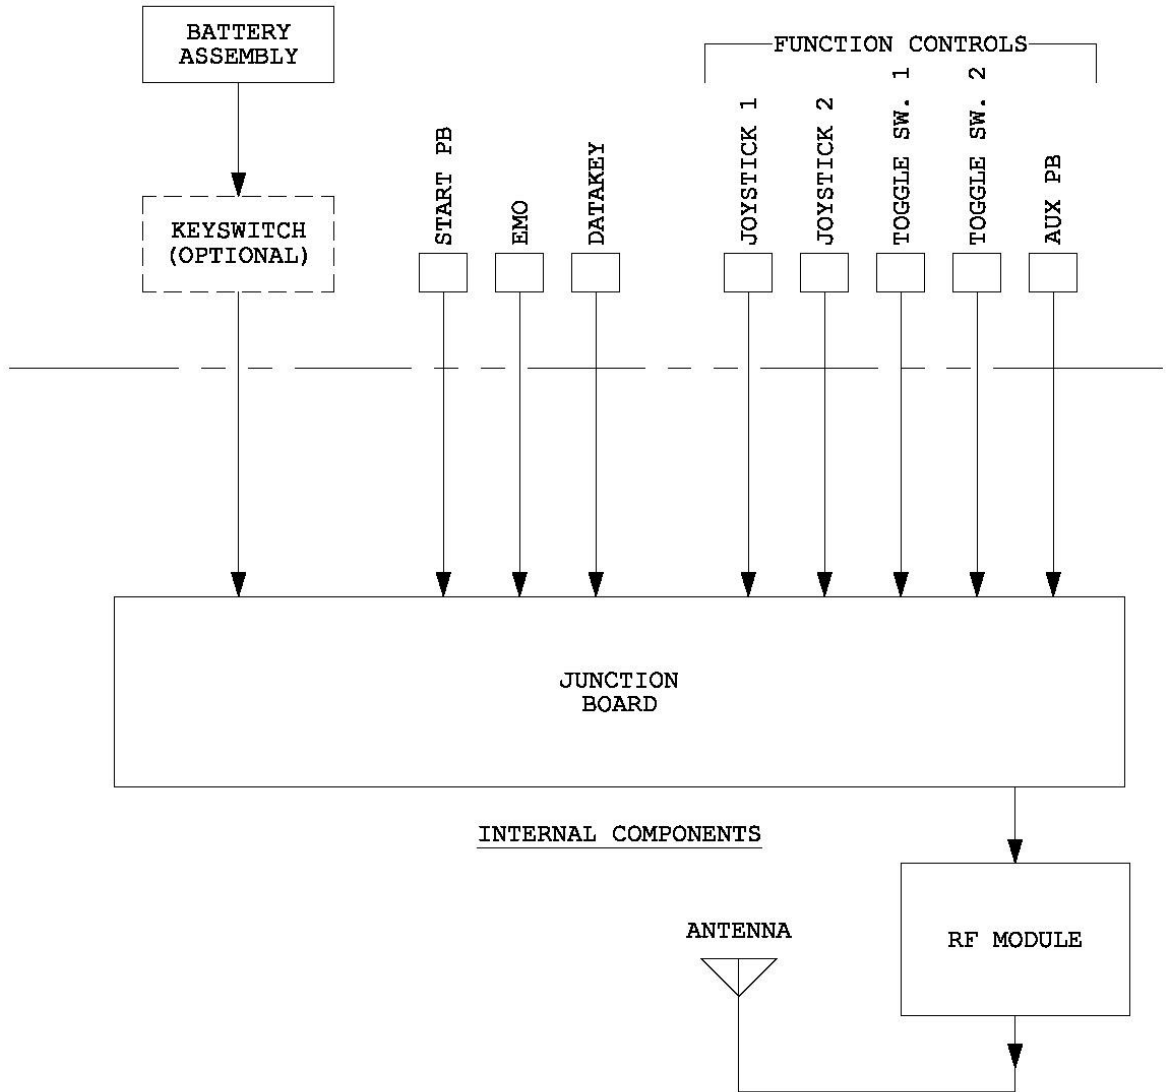

FIG. 3-1: BLOCK DIAGRAM, TRANSMITTER
The Crane Boss II Transmitter is a battery operated frequency modulation radio transmitter. Incorporated with the transmitter is an antenna and rechargeable battery pack. When the various switches are actuated, coded control signals are sent to the receiving equipment via the antenna. A block diagram of the transmitter is shown by Fig. 3-1.
5.2.2 Transmitter - (See Block Diagram, Transmitter, Fig. 3-1, and Transmitter Components, Fig.5-1).